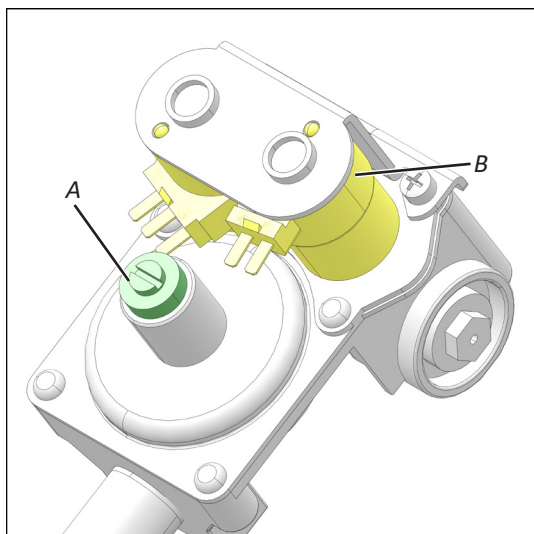
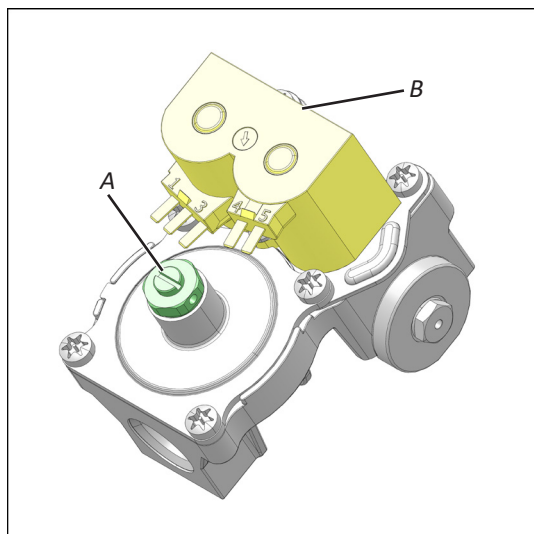

Figure 3A - Style "A" - Gas Valve
Figure 3B - Style "B" - Gas Valve
Refer to Figure 3A - Style "A" and Figure 3B - Style "B".
15. Remove the regulator vent cap (leak limiting device) from the pressure regulator. See Figure 3A Style "A".
18. Remove the regulator vent cap (leak limiting device) from pressure regulator. See Figure 3B Style "B".